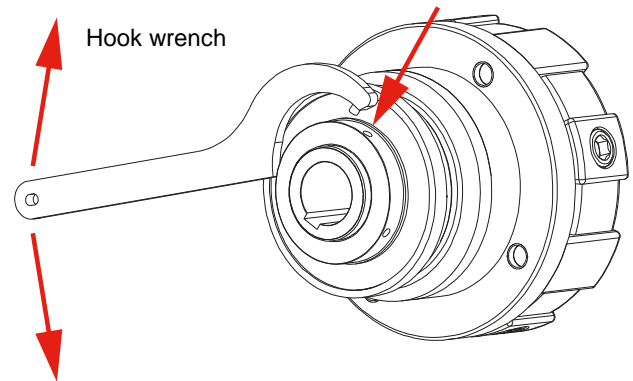

Fig. 7
7.4 Changing the Torque (Fig. 7)
1. Unscrew the set screws (18) from the adjusting nut (7) using a hexagon socket wrench.
2. Rotate the adjusting nut (7) using a hook wrench (Figure 7) by the dimension "a" which corresponds to the change to the desired limit torque M_G .
3. Secure the adjusting nut (7) by screwing in the radially aligned set screws (18) with the torque acc. table (Chapter 3.4).